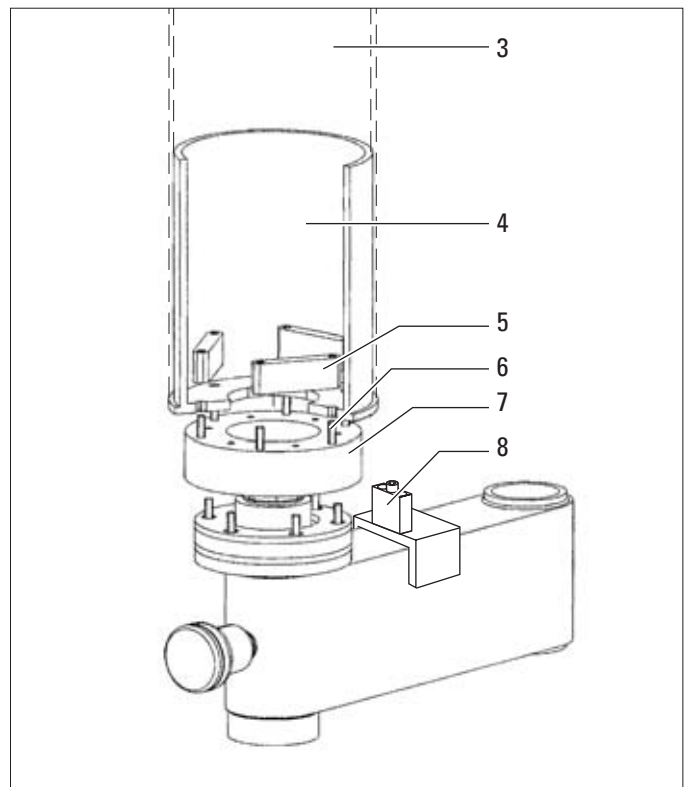

Fig. 2
The stop part (8) is not required for the Leica Mini Mount (Fig. 2).
⇒ Unscrew the insert (4) from the ceiling tube (3) of the Mini Mount (Fig. 2).